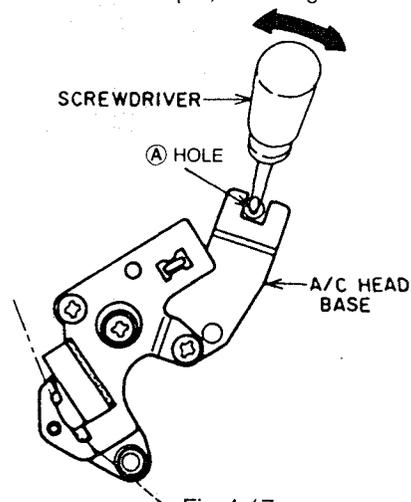

Fig. 4-17
- 5) Insert a sharp flat head (→) screwdriver into the A/C HEAD BASE and Ⓐ hole as shown in Fig. 4-17.
- 6) Move the A/C HEAD BASE by moving a screwdriver in the direction of the arrow as shown in Fig. 4-17 to obtain the maximum RF output, then tighten the Ⓒ screw.